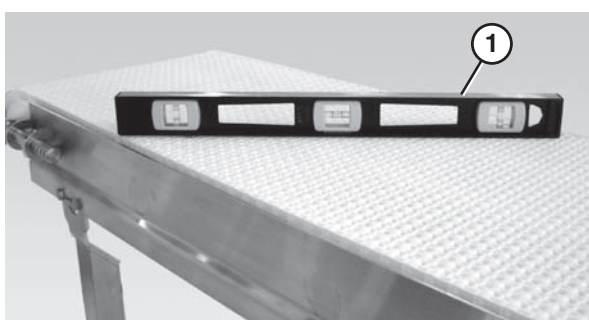

Figure 2
Conveyor **MUST** be mounted straight, flat, and level within confines of conveyor. Use a level (Figure 2, item 1), during setup.